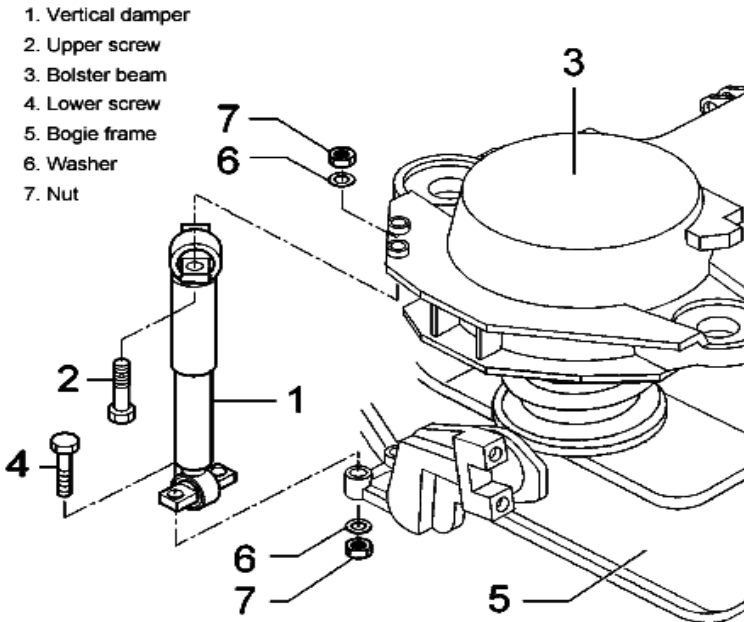

Fig. 3.2 Vertical Damper Removal
Remove both vertical dampers (Fig. 3.2) extracting the screws (2), which fix the upper end to the bolster beam (3) and those (4) fixing the lower end to the bogie frame (5). In both cases recover the washers (6) and the nuts (7).